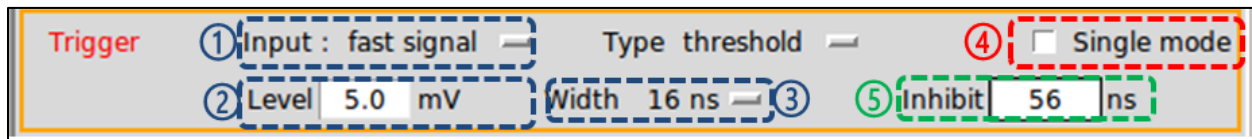
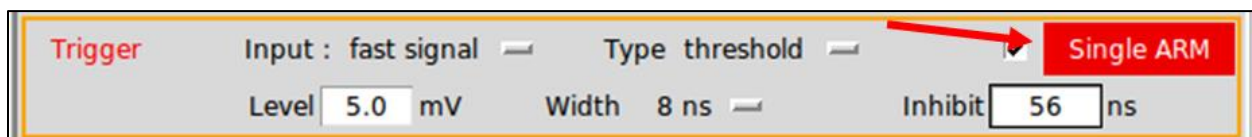

Figure 33: parameters of the threshold discriminator.
Figure 35: “Single Arm” button
All input pulses (Figure 33 ①) of the Trigger module, whose signal has crossed the threshold “Level” (Figure 33 ②) on rising edge and remains above this level during at least the duration “Width” (Figure 33 ③), are detected.
By checking “Single mode” (Figure 33 ④), the “Single Arm” button appears (Figure 35). A cursor click on this button will trigger a single pulse detection.
Finally, the experimenter can adjust the minimum duration between two detections with the “Inhibit” parameter (Figure 33 ⑤), in order to ensure dead time duration (cf. § III.H). This duration must be wider than the pulse width, otherwise it has no impact. It is a multiple of 8 ns between 8 ns and 1 048 568 ns.